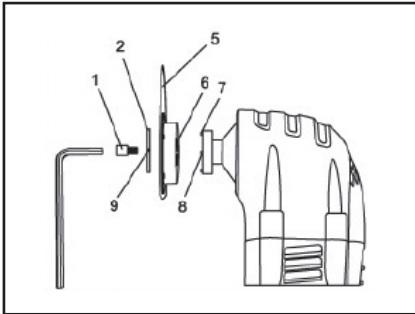

Fig. 2
- Place the blade (5) on the accessory holder (Fig. 2)
1. Install the plunge cutting wood saw blade for wood in the tool (Fig. 2).
1. Install the plunge cutting saw blade for wood in the tool (Fig. 2)
1. Install the half circle saw blade for wood & drywall in the tool (Fig.2)
1. Install the sanding pad on the multi-tool as outlined in Fig. 2
1. Install the scraper blade on the multi-tool as outlined in Fig. 2, Fig. 1 & 2.